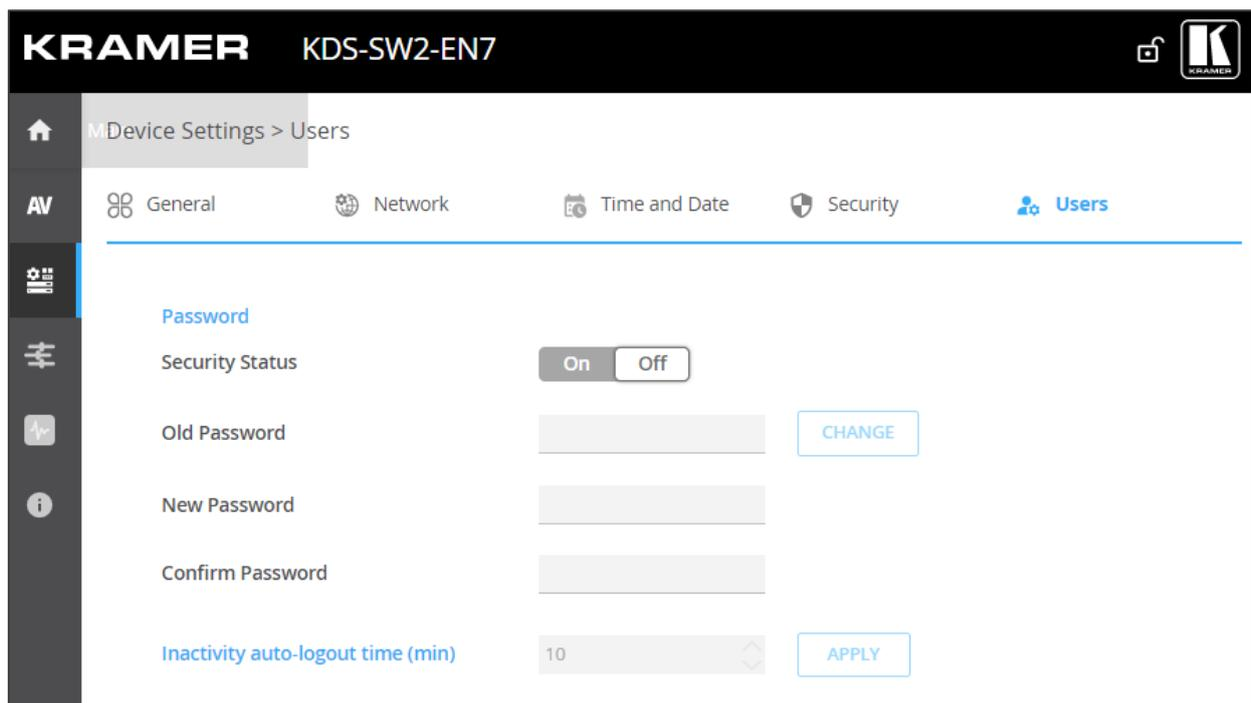

Figure 25: Device Settings Page – Users Tab
- Select Users tab (see Figure 25).
2. Select Users tab (see Figure 25).